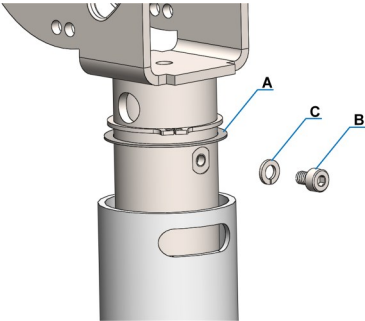
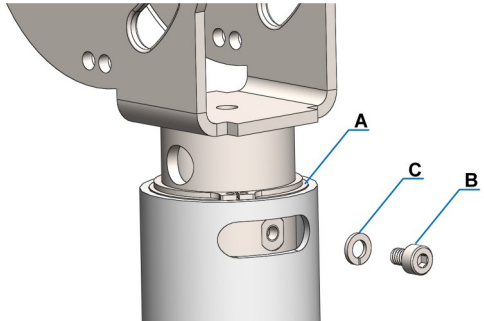

Figure 19: Remove stop screw.
Figure 20: Install stop screw.
2. With covers removed, use a 3mm Allen key to remove the rotational stop screw (B) and lock washer (C) from the back of spring arm post. Take care to ensure the lock washer (C) and shim washer (A) do not fall off during this step. See **Figure 19**.
4. Slide the spring arm into the mounting post. Ensure the washer (A) is present and did not fall off the spring arm shaft.
5. Using 3mm Allen key, fasten the rotational stop screw with lock washer into the back of the spring arm post. Refer to **Figure 20**.